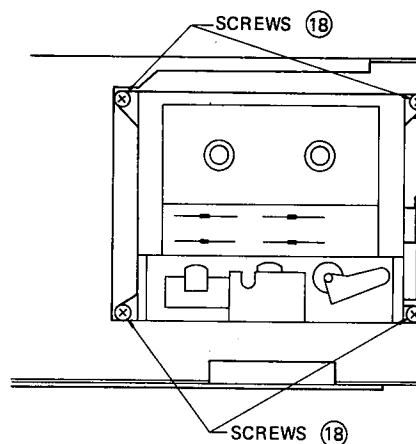

Fig. 9
- 3) Remove the 4 Tape 2 Mechanism fixing screws (18) shown in Fig. 9.